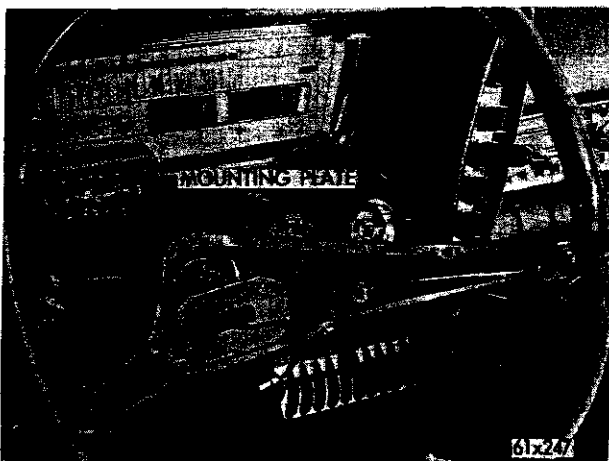

Fig. 20—Horn Blowing Ring Mounting Plate
(10) Remove the four screws and remove the horn blowing ring mounting plate (Fig. 20).